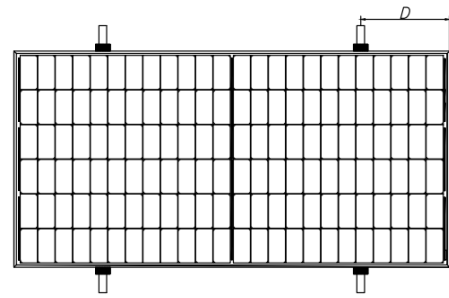
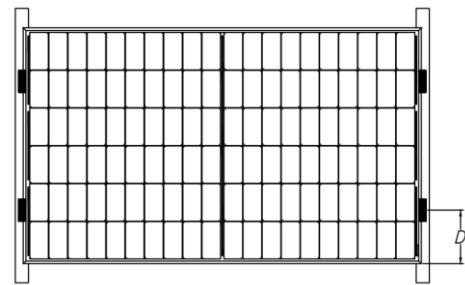
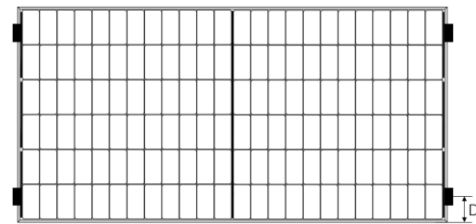

Fig. 11 Rails vertical to the long-side frame
Fig. 12 Rails overlapping the short-side frame
Fig. 13 Four clamp mounting on short side of frame
Photovoltaic modules can be installed across the support frame (Fig. 11) or parallel to the frame of the photovoltaic module (Fig. 12). PV modules can also be installed with four fulcrums (Fig 13). When using clamps to install, each module must be secured with a minimum of 4 clamps.
- ⑧ For the mounting shown in Figure 12, the overlap between the C surface of the assembly and the rail should be $\geq 25\text{mm}$. Astronergy's limited warranty will be void if improper clamps or improper installation is used.